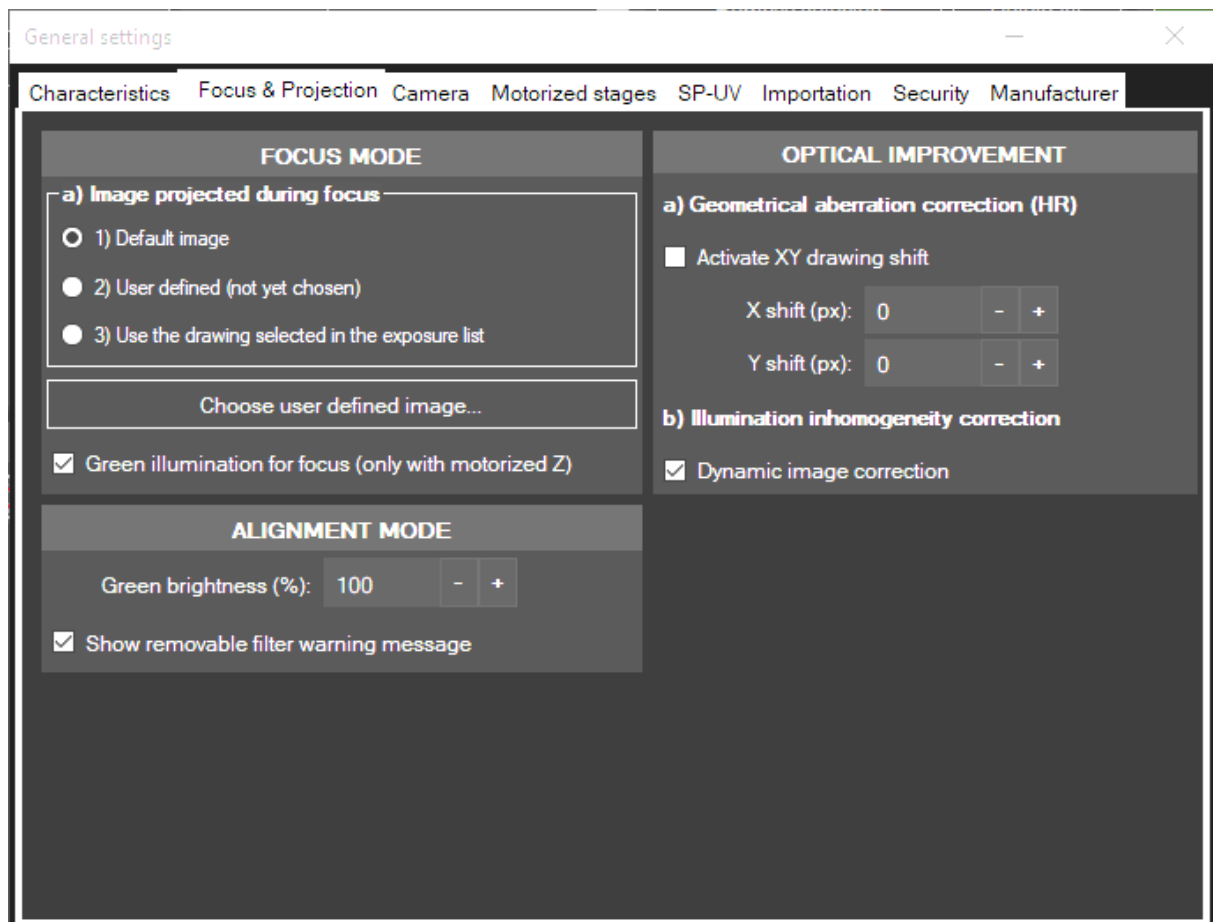

Figure 68 – Settings: focus and projection options
**Focus mode.** In the tab **Focus & Projection**, the drawing used during the focusing step can be set (Figure 68):